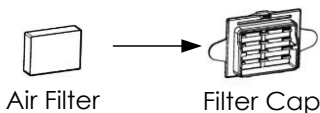

Fig. 12-1
(1) Attach the air filter to the filter cap, as shown in Fig. 12-1.